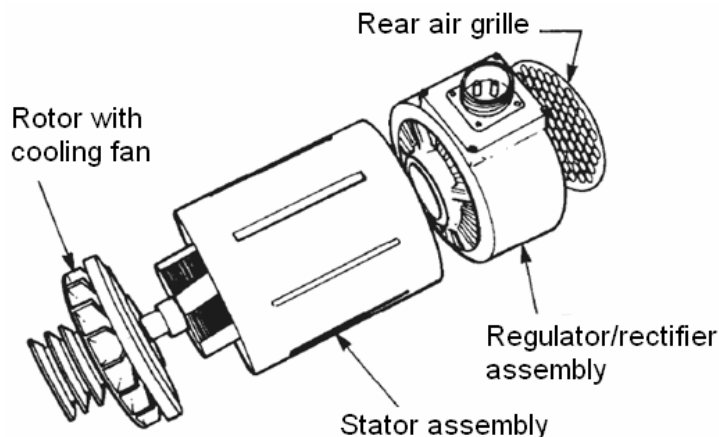

Figure 1 Alternator - Exploded View
6. **Alternator.** The vehicle is fitted with a Generator, Engine Accessory, 28 V dc, 100 A which has three moving parts, and comprises four sub-assemblies. They are a stator assembly; an inductor rotor with cooling fan; a regulator/rectifier assembly and a rear air grille as shown in Figure 1. This is an inductor-type three phase alternator with in-built rectification and output control and is capable of continuous operation in temperatures ranging from -15° to $+105^{\circ}\text{C}$. The inductor-type alternator differs from the induction alternator in that there are no rotating windings which eliminates the need for slip-rings and brushes. Both the field excitation windings and the three phase output windings are wound on the stator. The soft iron laminated rotor induces current into the output windings by moving through the magnetic field produced by the excitation windings. A full technical description of the alternator is contained in EMEI Electrical P 412.